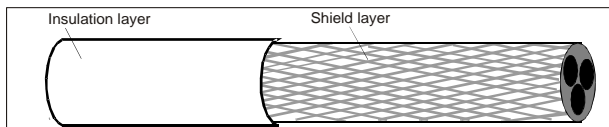

Figure D-1 Cable cross section
To effectively restrict the emission and conduction of radio frequency (RF) interference, the conductivity of the shielded cable must be at least 1/10 of the conductivity of the phase conductor. This requirement can be well met by a copper or aluminum shield layer. Figure D-1 shows the min.